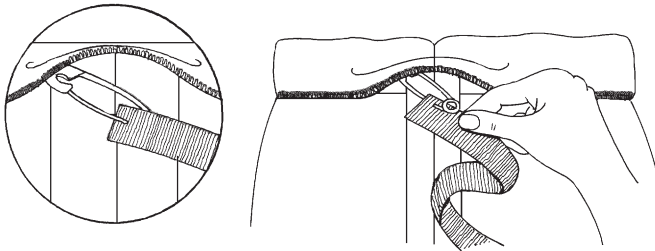

Fig. 12-9
5. Fasten a safety pin through one end of the elastic. Insert the closed pin and elastic into the opening in the casing. Pull the pin and elastic through the casing, using the pin to guide the elastic through the casing and back out of the opening. Hold the loose end of the elastic so it doesn't get pulled into the casing. (Fig. 12-9)